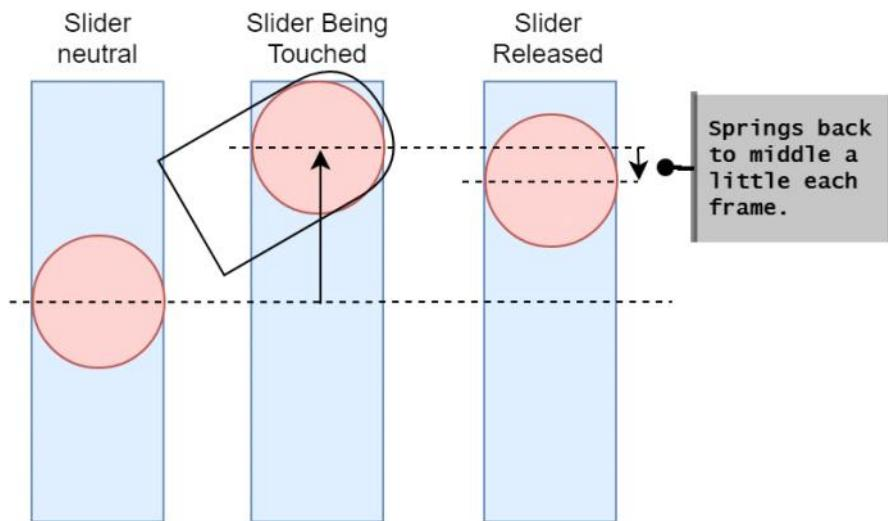

Figure 17.6 – Slider return to middle behavior
*Figure 17.6* shows the slider mechanism. As with an analog joystick, you can drag the sliders to any position on their track with touches, and when let go, they will spring back to the middle.